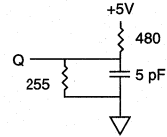

Fig. 2 OUTPUT LOAD EQUIVALENT
6. ^tHZCE, ^tHZOE and ^tHZWE are specified with C_L = 5pF as in Fig. 2. Transition is measured ±500mV from steady state voltage.